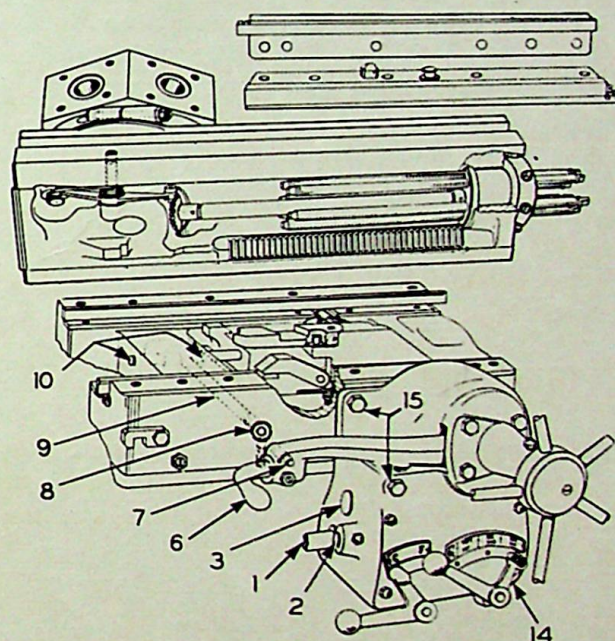
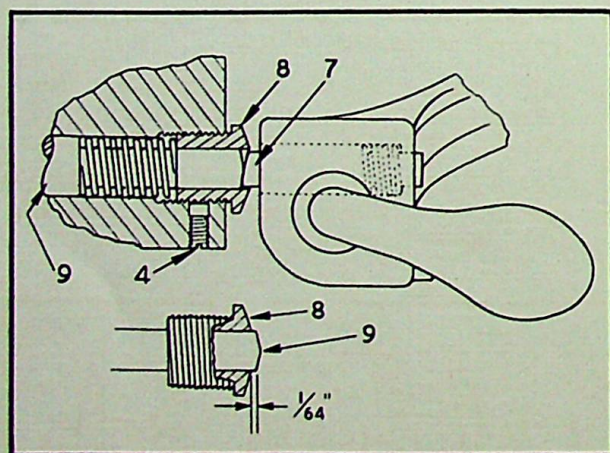

FIG. 49 Hexagon Turret Saddle and Apron
FIG. 51 Power Feed Knockoff Adjustment
The feed clutch (4) is shown in Fig. 50. It is engaged through raising handle (6) Fig. 49, whereby its trip pin (7), Figs. 49 and 51, is made to fall into bushing (8), Fig. 49. See also (8), Fig. 51. Inside of this bushing slides the feed knockoff rod shown at (9), Figs. 49 and 51.
When the turret slide stop screw (17) strikes stop (24) Fig. 37, the latter moves forward and imparts this motion also to rod (25) Fig. 37 (See also (10) Fig. 49), which in turn through an angular flat or cam surface pushes out the feed knockoff rod (9) Figs. 49 and 51, thereby disengaging the feed clutch handle and the feed clutch.
4. Set triple shift feed lever (14) to position shown in Fig. 49.
8. Remove four bolts (15) Fig. 49.
Figs. 49 and 50
(8) Figs. 49 and 51
1. Loosen set screw (4), Fig. 51.
2. Advance turret slide toward spindle by rotating the turnstile by hand and bring it to a solid stop. This will push feed knock-off rod (9), Fig. 51, to its extreme out position.
3. Adjust bushing (8) until rod (9) projects approximately $1/64$ inch.
5. It should now be possible to advance the slide $1/64$ inch more by hand. If this amount is more or less than $1/64$ inch, adjust bushing (8) until corrected, being mindful of the caution note given below.